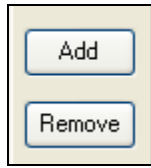

Figure 13.0.6
4. If you want to remove a controller just use the same method by highlighting the controller in the “**Controllers to poll**” window and click on the **Remove** button (Figure 13.0.6).